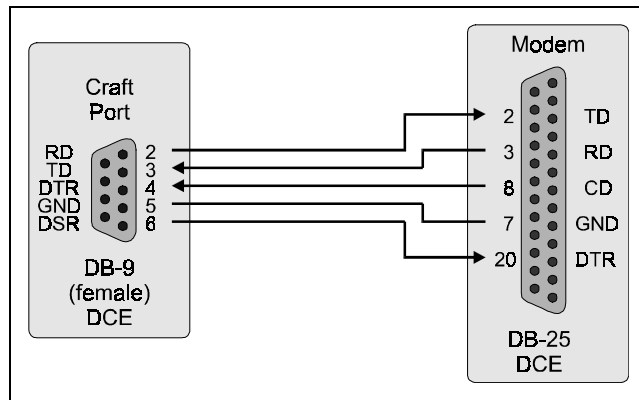

Figure 40
When connecting the RS-232 port to a modem, a null modem cable should be used. The wiring for this cable is shown in Figure 40. Ensure that the modem's Carrier Detect (CD) and Data Terminal Ready (DTR) functions are enabled. This will allow the modem connection to terminate properly when the PMU drops Data Set Ready (DSR) and the unit will log off when the modem drops Carrier Detect.